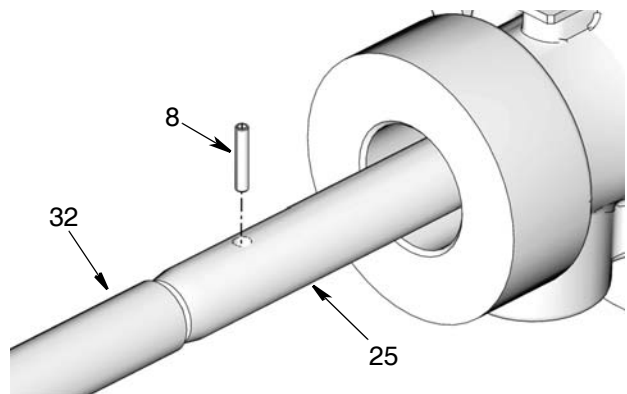

Fig. 18
- Screw the connecting rod (32) and the displacement rod (25) together, aligning the pin hole in both pieces to allow the pin to be pushed through (Fig. 18).
- Replace the pin (8). Use a rubber hammer to tap the pin into place, being careful to make sure the sides of the pin are flush with the outside surface of the connecting rod (Fig. 18).